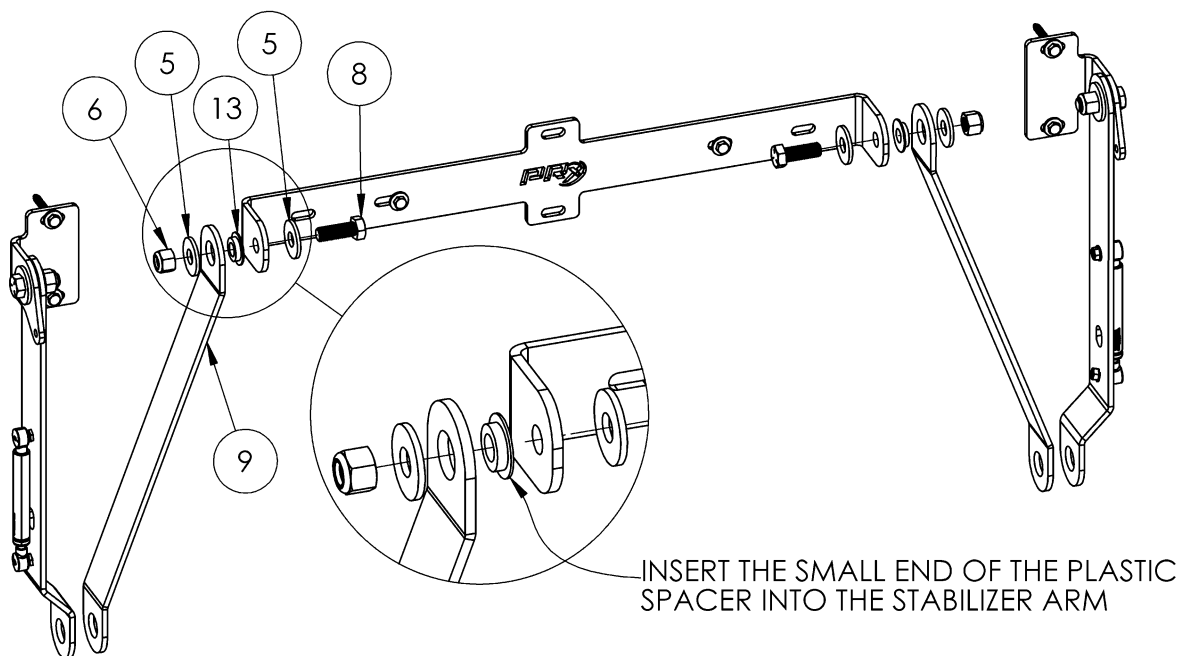

Figure 7: Attaching the Stabilizer Arms
1. Place the small side of the plastic spacer (13) into the stabilizer arm (9) (**Figure 7**).
3. Attach the stabilizer bracket to the stabilizer wall bracket using a 1-3/4” hex head bolt (8) and 5/8” washer (5) on the inside of the stabilizer wall bracket “ear” and a 5/8” washer (5) and 5/8” lock nut (6) on the outside of the stabilizer arm.